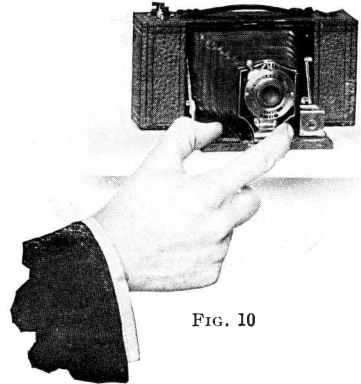

FIG. 10
1. To disengage front from catch so that it may be pushed back, press down with thumb (Fig. 10) on lever of focusing device (shown in Fig. 2, page 12).
2. Keep lever pressed and slide back front a short distance with forefinger (Fig. 10). The lever may then be released and front pushed back into the camera box.